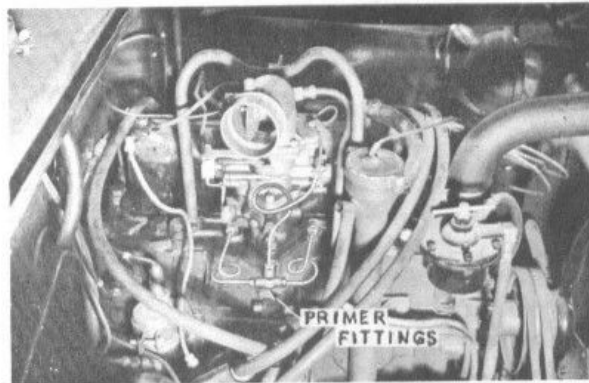

Figure 2
9. Install the two elbow primer nozzles in the tapped holes, turning the compression fittings away from the engine (Figure 2) and then reinstall the carburetor and carburetor air intake tube.
10. Connect the two short lengths of $\frac{1}{8}$ -inch tubing to the nozzles and form vibration loops as shown in Figure 2, then install the compression tee between the loops.
11. Form the $\frac{1}{8}$ -inch line from the primer pump so that it passes behind the carburetor and around to the tee. Form a vibration loop in this line and connect it to the tee (Figure 2).